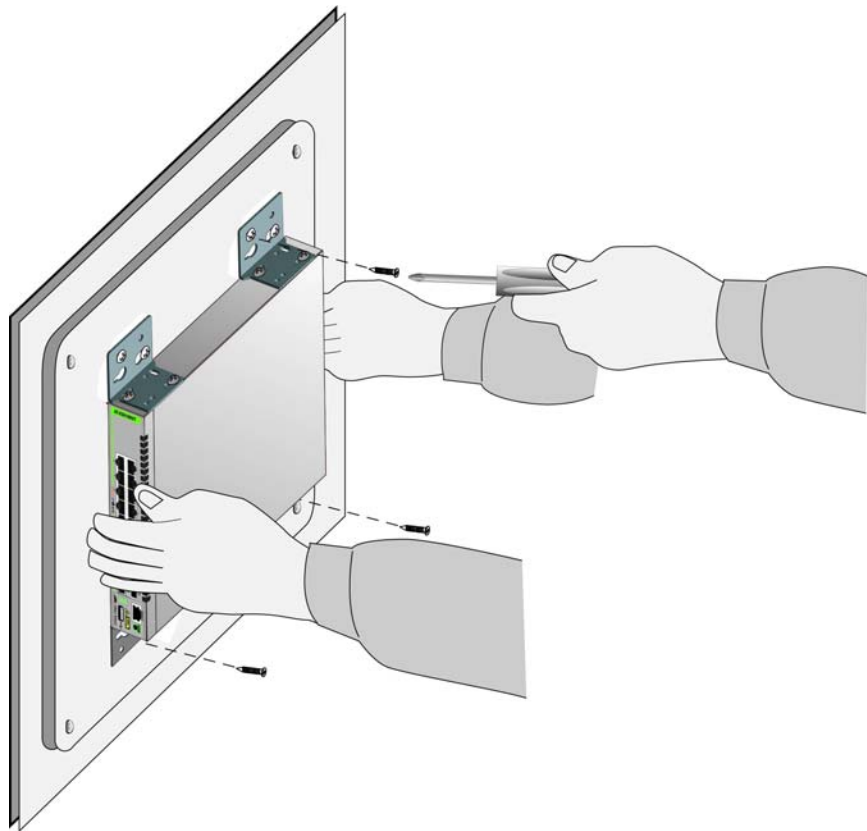

Figure 36. Securing the Switch to the Plywood Base
3. After attaching the brackets, have another person hold the switch on the plywood base on the wall while you secure it with four screws (not provided with the switch). Refer to Figure 36.